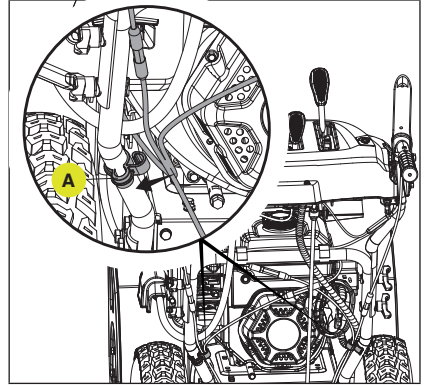

Figure 11
Connect the cable clamps (A) to the handle bars as shown. If already connected, move into the correct location, and remove to position the cables and then reconnect to the handle bars as shown. Make sure the cables aren't pinched. (Fig. 11 and 12)